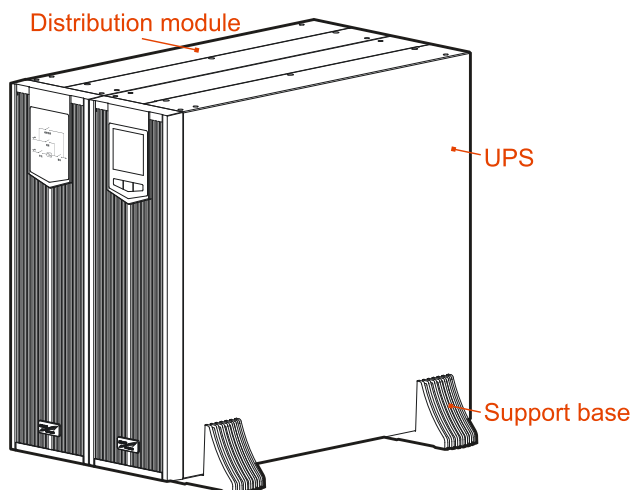

Figure3-4 Install the UPS and distribution module
Step 2 Put the UPS and distribution module onto the assembled support base, as shown in Figure3-4.